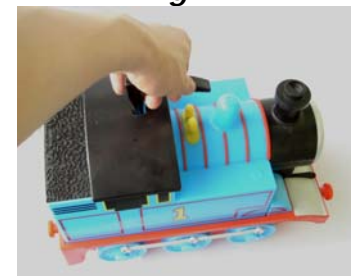

Fig. 8
5. Turn the tank over, holding it by the top handle, and place it on the central body, making sure it fits perfectly. (see Fig. 8)